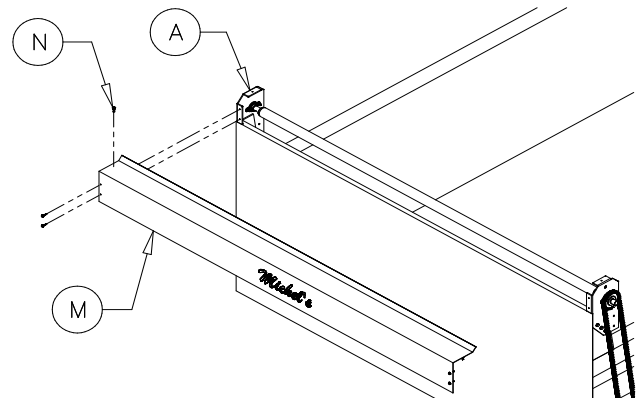

Figure 20
Center the rear tarp pocket on the rear pivot arm crossmember (F). Position a pvc rear tarp clamp (J) on both edges of the tarp material. Fasten both tarp clamps to the tarp and rear pivot arm crossmember (F) with the #10-24x3-4 wafer head screws (K) provided (see Figure 20).
(See Figure 20)